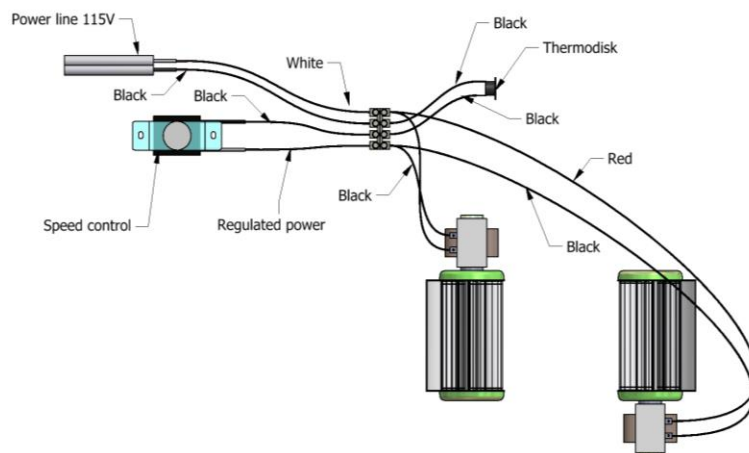

Figure 13 – Blower Kit Electrical
2. Make the electrical connections (see figure 13).